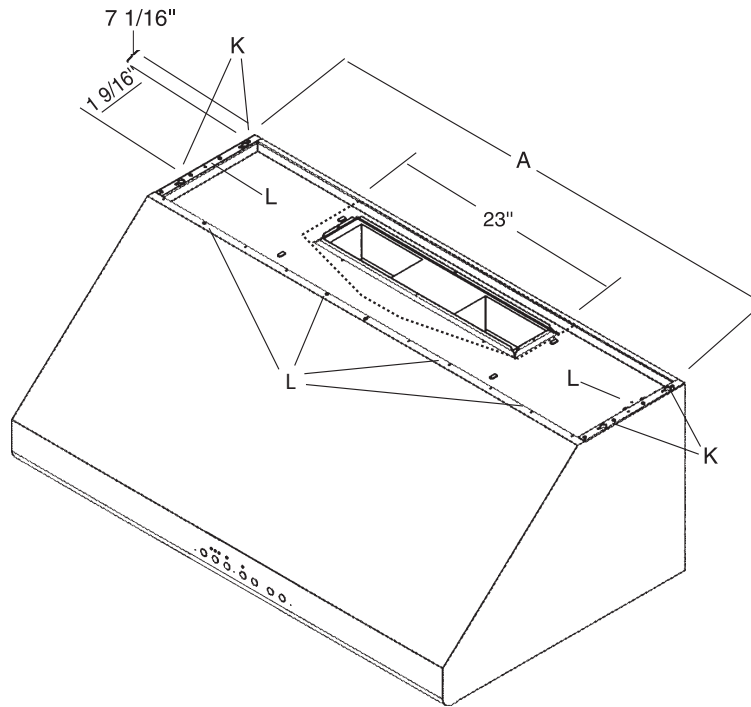

Figure 10 PH_Z
Figure 10 shows the four holes used for mounting the hood to the bottom of the cabinet.
1. In the base of the cabinet, drill 1/16" tap holes at the locations shown in Figure 10. Screw in four (4.2 mm x 18 mm) screws provided with hood leaving 1/4" exposed.